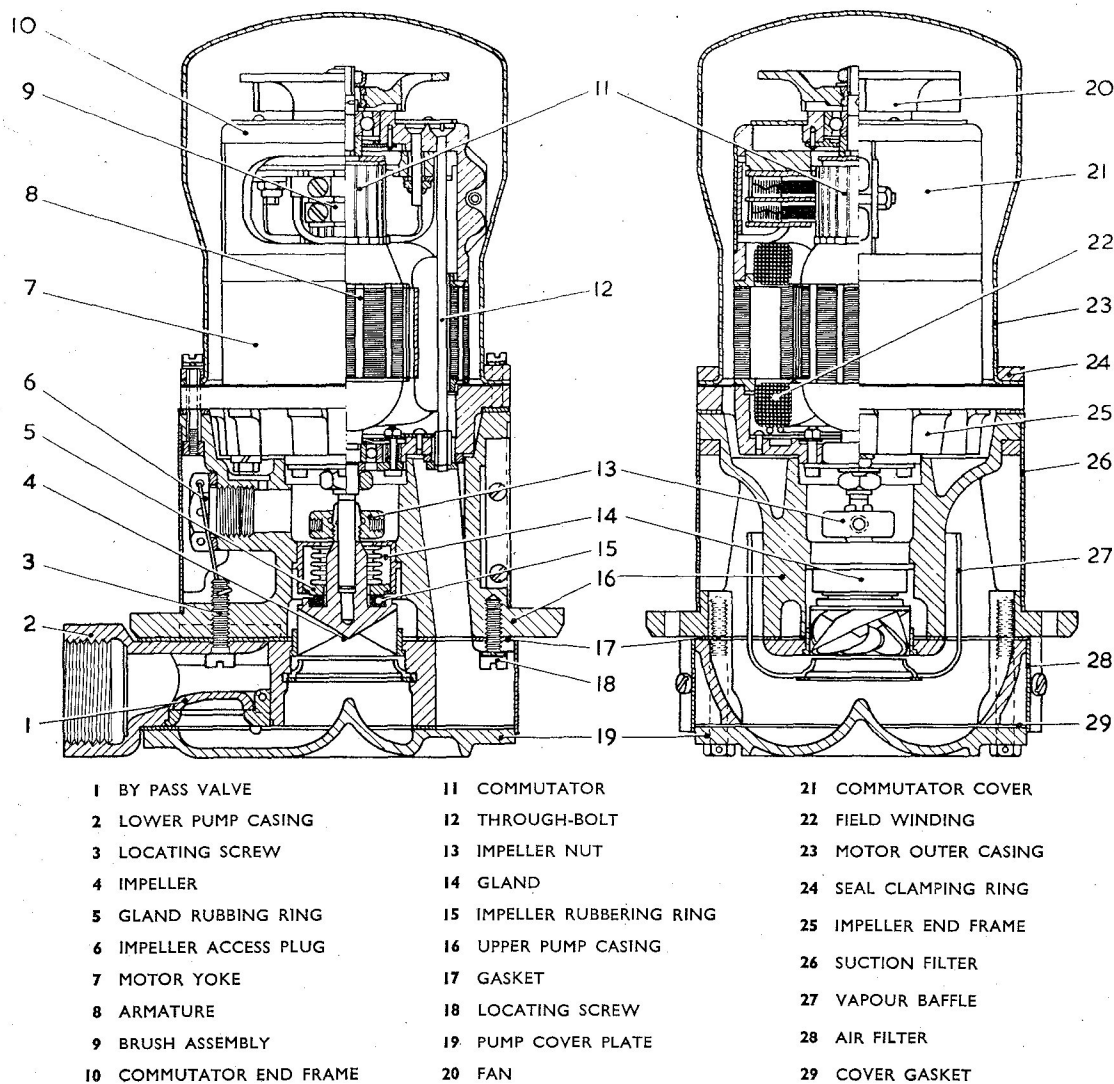

Fig. 1. Sectional view of FB6, Mk. 3 pump
2. The FB pumps, for which general repair and reconditioning instructions are given in A.P.4343, Vol. 6, Sect. 16, Chap. 1, have the motor assembly outside the fuel tank, with the pump assembly extending into the tank. The totally enclosed and fuel sealed motor of the FB6, Mk. 3 pump (*fig. 1*), with the pump at its lower end, extends into the tank. The only portions of the unit on the exterior of the tank are the fuel outlet, gland drain plug, electric supply plug, and flame protected motor breathing aperture.
8. The lower pump casing is retained to the upper casing by two locating screws. One of these (18, fig. 1) is visible and is locked by a spring washer only. To give access to the other screw (3, fig. 1), the by-pass valve must be pulled out from its housing in the lower casing. This screw is locked by a wire to the head of the impeller access plugs; remove this wire. Dismantle the electric supply plug and push the pin connectors of the plug, together with the motor leads, back into the casing of the pump. Unscrew and remove the two previously mentioned locating screws, and ease the lower pump casing from the upper casing.